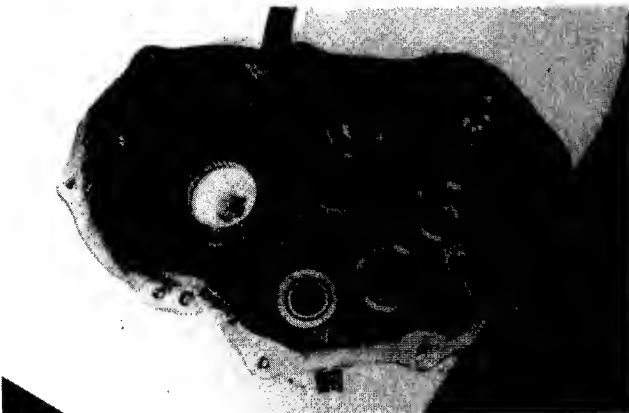

FIG. 4.6-GEAR CASE BEARINGS
7. Inspect all parts for wear or damage, replace as required. Replace all seals and gaskets. If bearings require replacement, position bearing cage flush with machined surface of bearing bore and press against lettered side of bearing. Fig. 4.6.